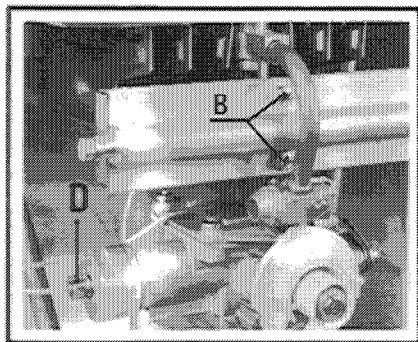

Fig. 6
2) Burner (fig. 6).
- Unscrew the thermocouple nut D from the thermo-electric valve and remove it from the wire (fig. 6).